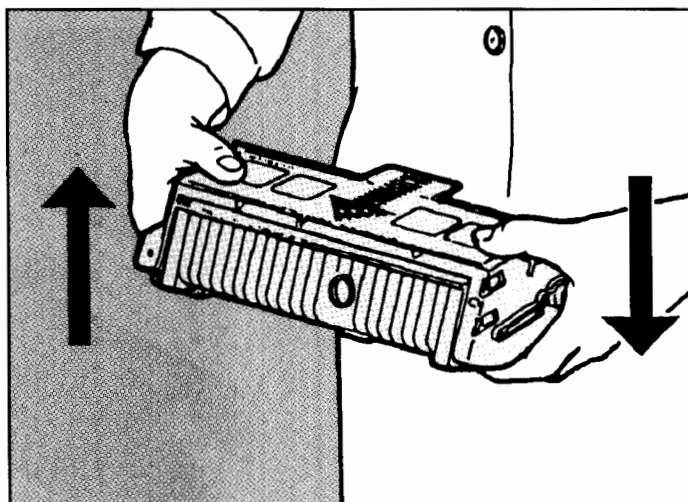

Figure 8-4. Rocking the Toner Cartridge
2. Slowly rock the cartridge from end to end five times to redistribute the remaining toner, as shown in figure 8-4.